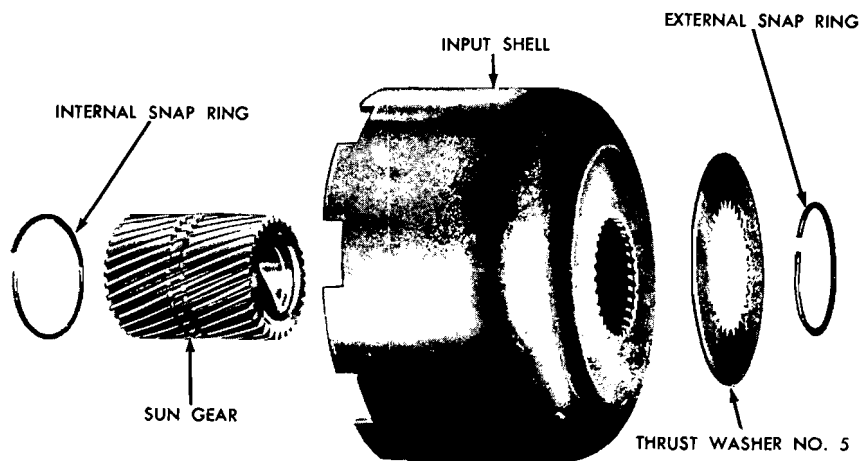

FIG. 95—Input Shell and Sun Gear Disassembled
2. Remove thrust washer No. 5 from the input shell and sun gear (Fig. 95).
7. Install thrust washer No. 5 on the sun gear and input shell (Fig. 95).